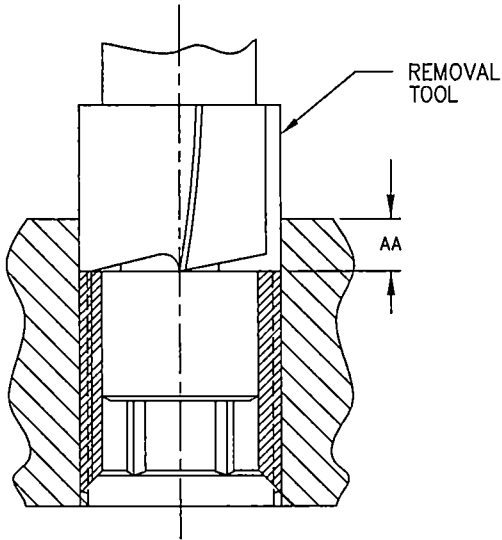

FIGURE 9
- 4.1 POSITION THE PILOT OF APPLICABLE TOOL PER TABLE 7 INTO INSERT AND DRILL DOWN TO DEPTH SHOWN IN FIGURE 9, TABLE 7.